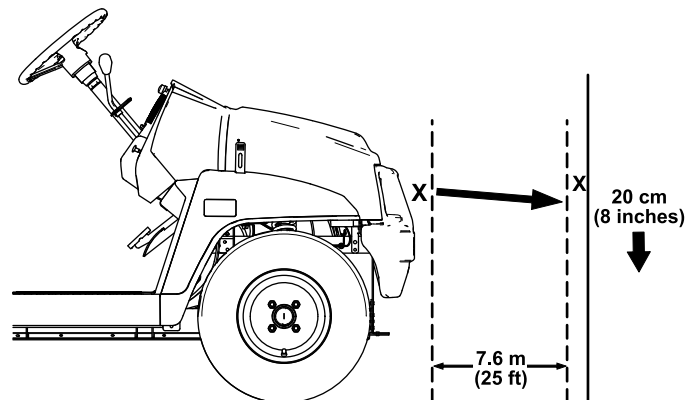

Figure 41
1. Park the machine on a level surface with the headlights approximately 7.6 m (25 ft) from a wall (Figure 41).
The brightest part of the headlight beam should be 20 cm (8 inches) below the mark placed on the wall (Figure 41).